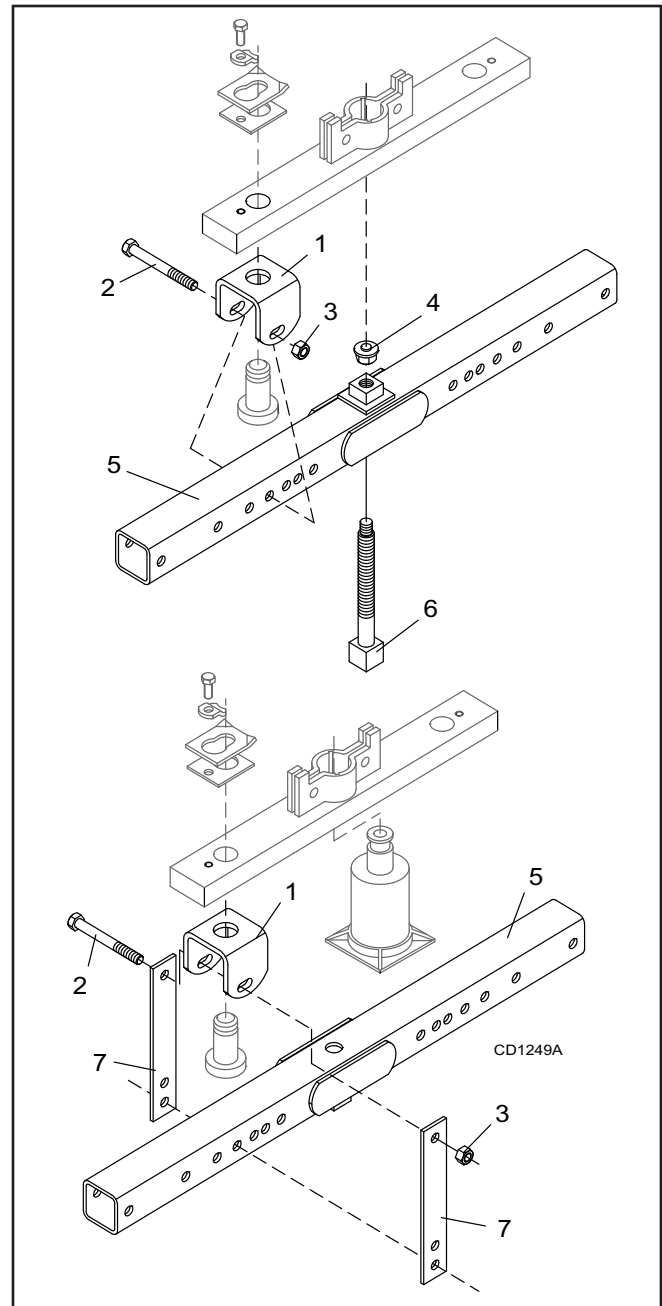

Figure 19. Crossbar Removal
NOTE: You will need to use either the puller screw (Item 6, Figure 19) or a small hydraulic jack to remove the crossbar.
4. Refer to Figure 19. Attach clevis (1) to each end of crossbar, using blade pins, spacers, keyhole plates, and blade pin clips.
5. Position tube assembly (5) with threaded nut toward crossbar for puller screw removal or down for hydraulic jack removal.
6. For removal with puller screw, attach tube (5) to each clevis with bolts (2) and nuts (3). Place pad (4) in nut and thread puller screw (6) into nut from bottom. Tighten until pad is solid against gearbox shaft. For best results, strike head of puller screw with a hammer while tightening with a wrench.
7. For removal with a jack, attach tube to each clevis with puller links (7), bolts (2), and nuts (3). Place jack on tube with end of jack pressing against gearbox shaft. Slowly apply force with jack.